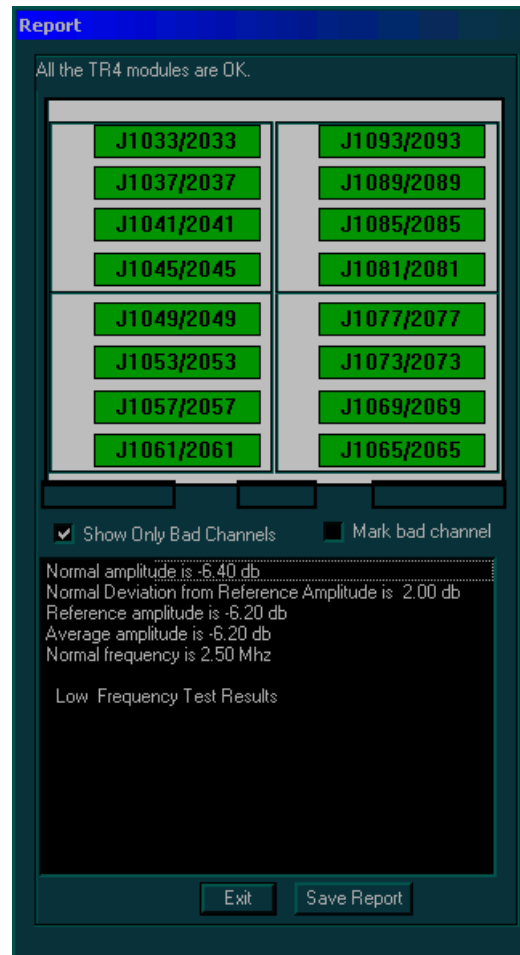

Figure 7-29 Report Dialog Box - Normal Channels Test Low Frequency
- 5) Trackball to the **Low Freq Test** button and press **Select**. The normal channels diagnostic test is performed in low frequency mode, and the test results are displayed in the *Report* dialog box, as shown in Figure 7-29 on page 7-52: